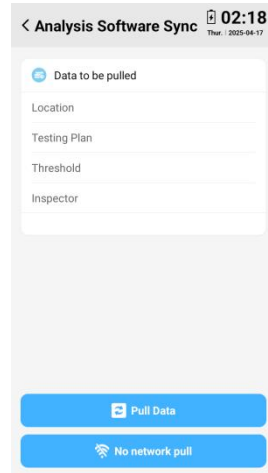

Figure 4.9-3 Data Pull Interface
- (1) Click the "Pull Data" button on the device side to enter the data pull interface, as shown in Figure 4.9-3, and then click the "Pull Data" button at the bottom of the interface to open the service;
- (2) Click the "Start Push" button in the analysis software, enter the device IP, and click the "Push Data" button to start the data transmission service;
- (3) After the data transmission is completed, the pulled data can be viewed on the device.